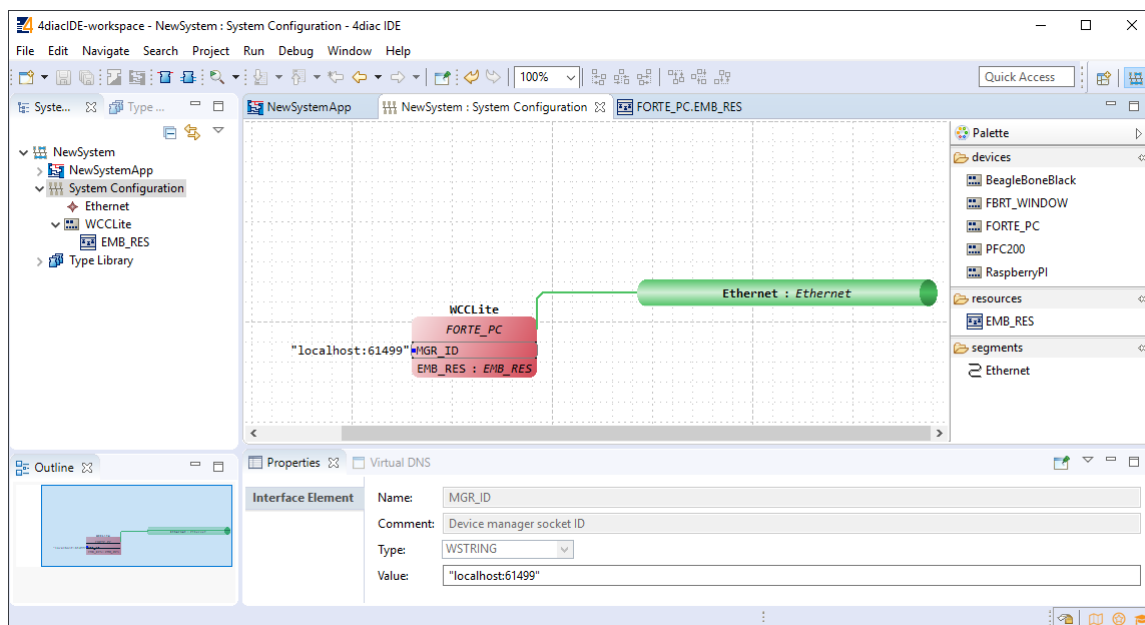

Figure 20: System configuration and network settings
In the System Configuration section, drag and drop a FORTE_PC device, an Ethernet segment and link them (figure 20). For debugging in the local (PC) runtime, leave the address "localhost:61499". For testing on a WCC Lite, enter the IP address of the device, along with the port number (which by default is 61499 as well).